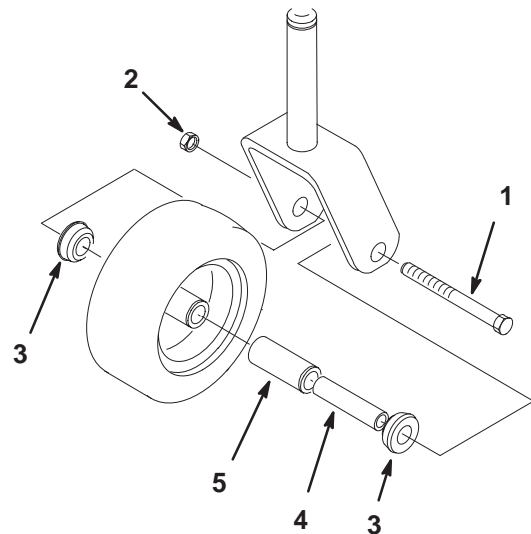

Figure 82
1. Remove the locknut and wheel bolt holding the caster wheel to the caster fork (Fig. 82).
2. Remove one bushing, then pull the spanner bushing and roller bearing out of the wheel hub (Fig. 82).
3. Remove the other bushing from the wheel hub and clean any grease and dirt from the wheel hub (Fig. 82).
4. Inspect the roller bearing, bushings, spanner bushing and inside of the wheel hub for wear. Replace any defective or worn parts (Fig. 82).
5. To assemble, place one bushing into the wheel hub. Grease the roller bearing and spanner bushing and slide them into the wheel hub. Place the second bushing into the wheel hub (Fig. 82).
6. Install the caster wheel into the caster fork and secure with the wheel bolt and locknut. Tighten the locknut until the spanner bushing bottoms against the inside of the caster forks (Fig. 82).